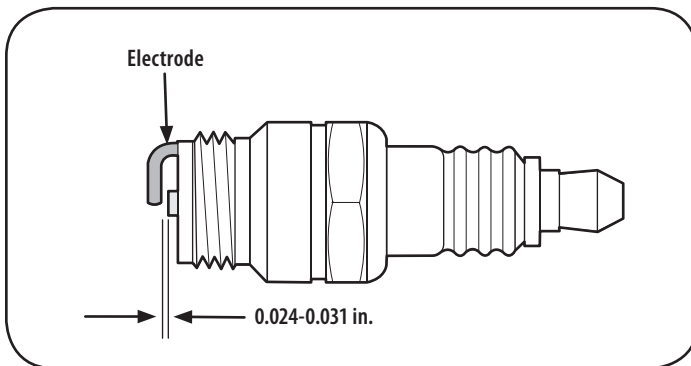

Figure 31
3. Measure the plug gap with a feeler gauge. Correct as necessary by bending side electrode. See Figure 31. The gap should be set to between 0.024-0.031 in.